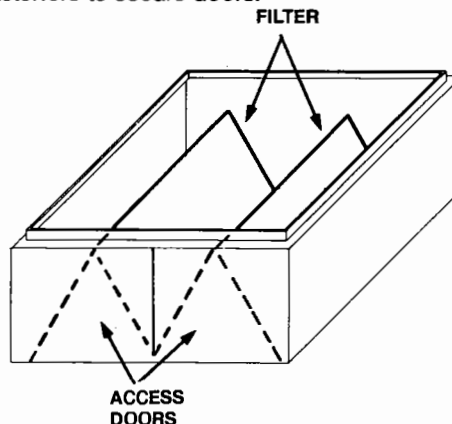

Fig. 15B. Filter Cabinet
1. Remove two front access doors by turning the two quarter turn plastic fasteners that secure the doors to the filter cabinet. (See Figure 15B.)